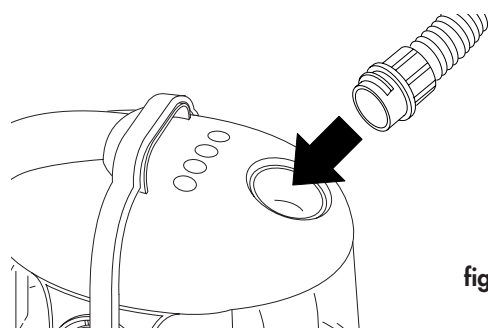

fig. 5
- Fit the hose G to the appliance, inserting the end with the bayonet into the inlet port E and then turning it clockwise (Fig. 5).